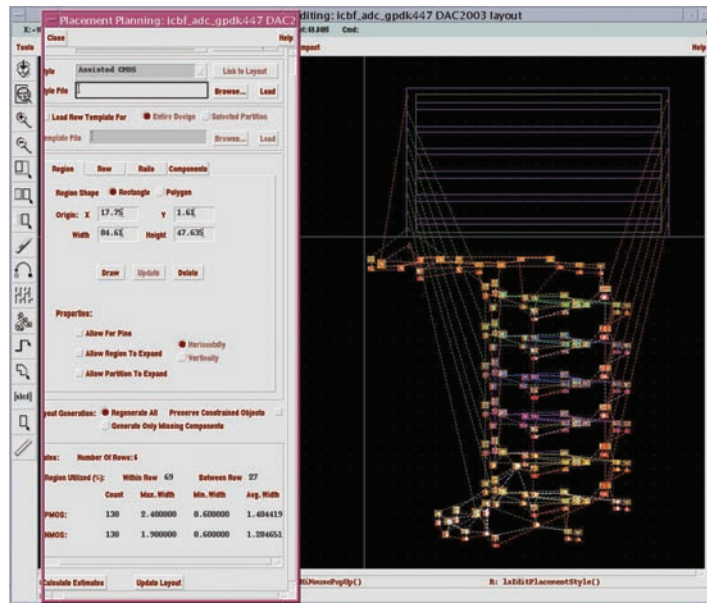

Figure 6: Floorplanning accelerates and ensures the accuracy of design placement and routing
- Block floorplanning with support rectilinear blocks, pin optimization, and template support (see Figure 6 on next page)